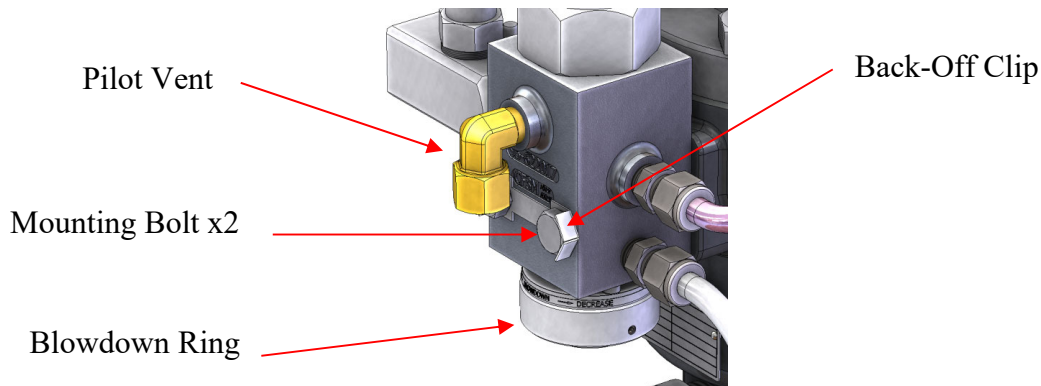

Figure 18: Pilot Valve Detail Mounting
5. Remove the pilot valve from the main valve by removing the mounting bolts and disconnecting the attached tubing. See Figures 18 and 19. Carefully remove the pilot valve from the main valve bonnet.
3. Remove the pilot mounting bolts and carefully remove the pilot valve from the main valve. See Figures 18 and 19.
3. Bend the back-off clip tabs away from the mounting bolts. See Figure 18.
4. Remove the pilot mounting bolts and carefully remove the pilot valve from the main valve. See Figures 18 and 19.